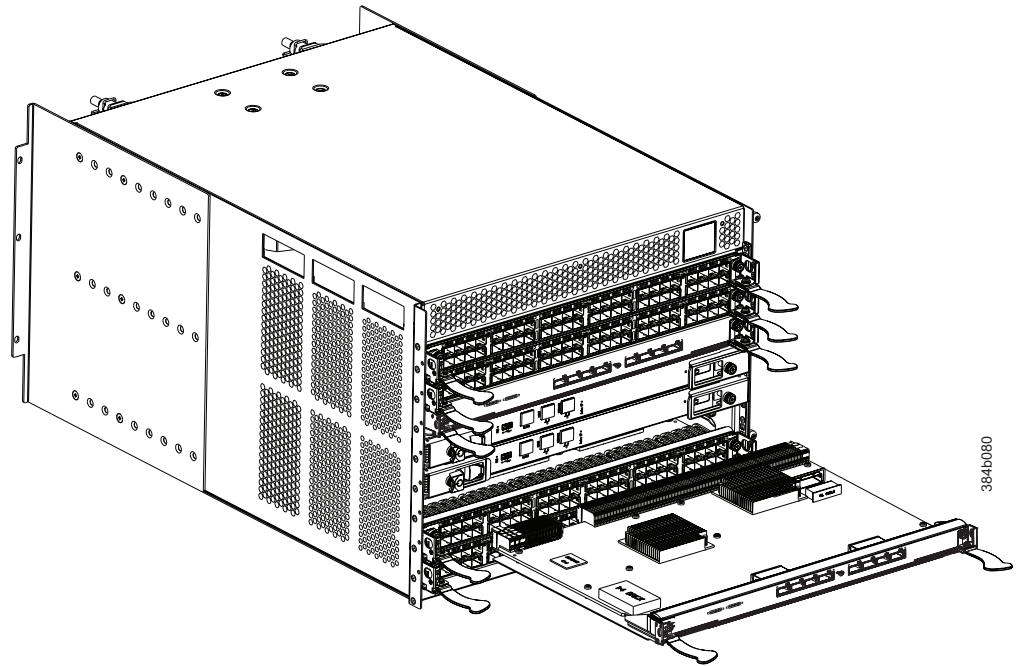

Figure 37. Removing and replacing the core switch blade
This section describes how to remove and install a core switch blade. The SAN384B-2 has two core switch blades: one in slot 3 and one in slot 6. Note that the blade shown in Figure 37 on page 87 is shown with EMI plugs installed.
4. Open the ejectors by rotating them toward the center of the blade face. Pull the blade out of the chassis using the ejectors (Figure 37 on page 87).